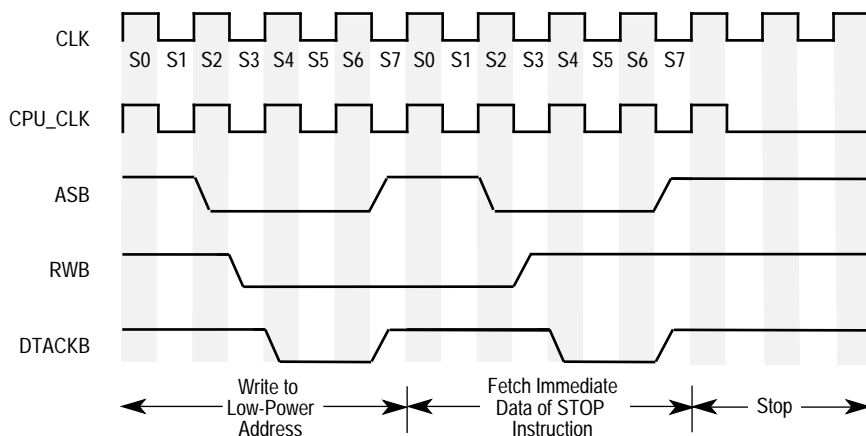
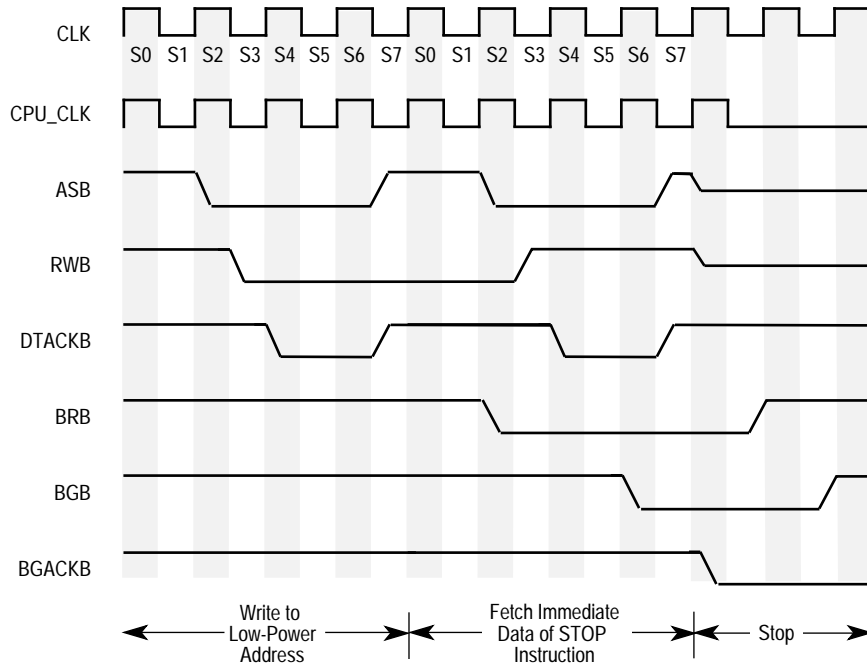

**Figure 2. Low-Power Circuitry for 8-bit data bus**
**Figure 3. Clock Stop Timing for 16-bit Data Bus**
- 2.) Execute the STOP instruction. The external circuitry shown in Figure 1 and Figure 2 will count the number of bus cycles starting with the write to the low-power address and will stop the processor's clock on the first falling edge of the system clock after the bus cycle that reads the immediate data of the STOP instruction. Figure 2 has one more flip-flop than Figure 1 because the SCM68000 in 8-bit mode requires two bus cycles to fetch the immediate data of the STOP instruction. After the processor's clock is disabled it is often desirable to disable the clock to other sections of the user's circuit. This can be done, but care must be taken to ensure that runt clocks and spurious glitches are not presented to the SCM68000. A timing diagram is shown in Figure 3.